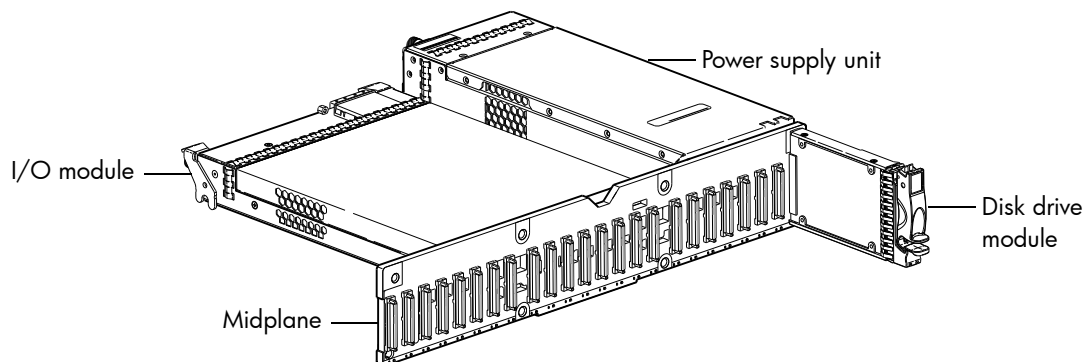

Figure 4 Controller enclosure architecture — internal components sub-assembly (2U24)
- Internal components sub-assembly — Figure 4 on page 13